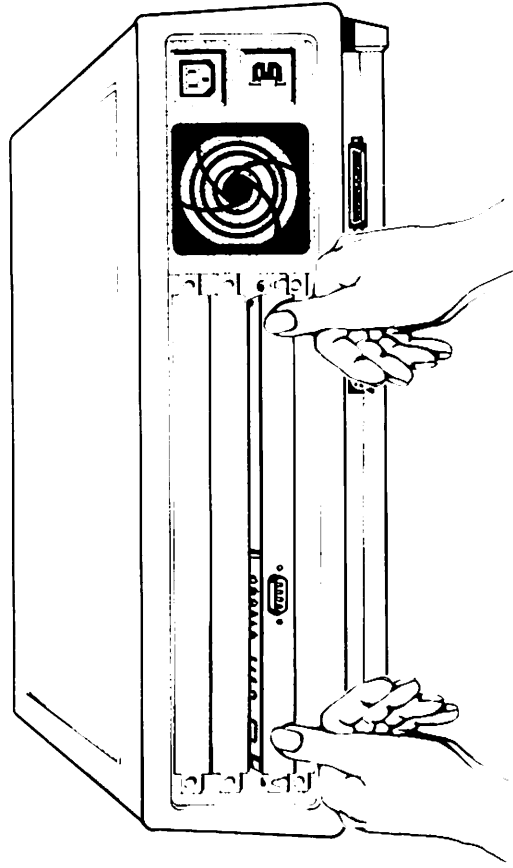

Figure 4
6. Then apply steady, equal pressure to both edges of the panel (near the buttons) to push the pan all the way in and "seat" the connector. Push the buttons in to lock the board into position. (See Figure 4.)